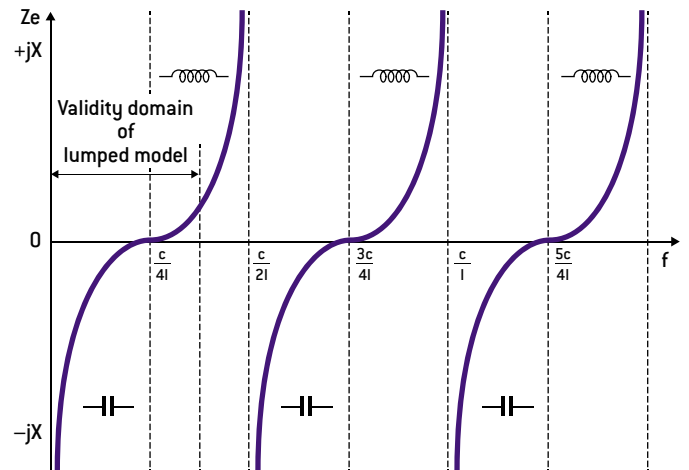

Figure 8: Plot of the theoretical expression (5) of the impedance of a Single Layer Capacitor modeled by an open stub
The plot of the theoretical expression (5) of the impedance of a Single Layer Capacitor is shown in Fig. 8. As one can see, this theoretical curve predicts a double infinity of self-resonant frequencies (alternances of serial and parallel resonances) that are identical to the ones encountered in real world measurements.
If now we take a closer look at a capacitor used as a coupling capacitor in a wide band application, it is evident when looking at fig. 8 that the coupling function will be correctly fulfilled at frequencies close to the serial resonant frequencies, since the capacitor's impedance is very low.